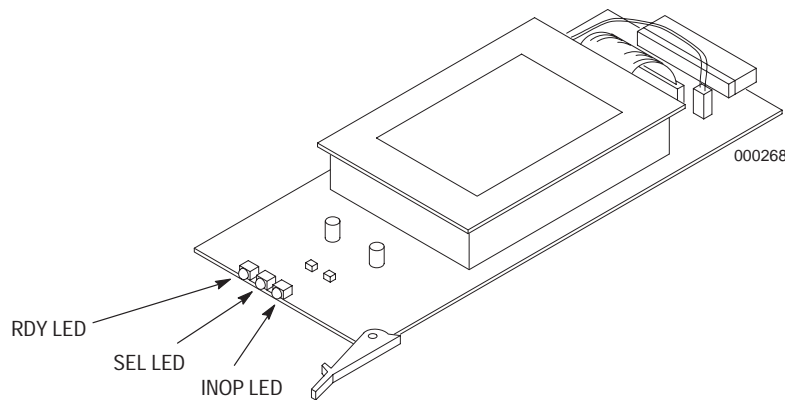

Figure 9-4. Disk-Drive-Module LEDs.
5. Make sure that the three LEDs on each disk drive, as shown in Figure 9-4, are lit as follows: